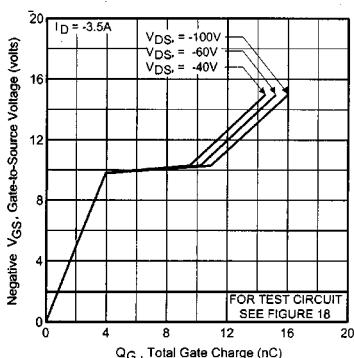

Fig. 11 — Typical Gate Charge Vs. Gate-to-Source Voltage
① Repetitive rating; pulse width limited by
max. junction temperature (See Figure 11)③ $I_{SD}\leq 3.5\text{A}$, $di/dt\leq 95\text{A}/\mu\text{s}$, $V_{DD}\leq V_{(\text{BR})\text{DSS}}$,